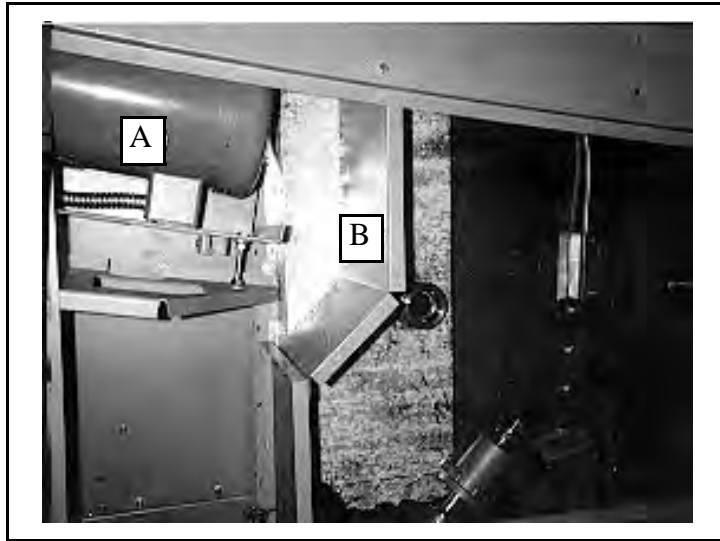

FIGURE 1 (MSSM0113AE)
1. Remove the motor (FIGURE 1, Item A), motor mounting plate, and all adjustment brackets. See “BASKET DRIVE MOTOR BASE ASSEMBLY . . .” (see Table of Contents). For clarity, steam piping is not shown.
2. Remove heat shield (FIGURE 1, Item B) between motor cavity and steam piping.